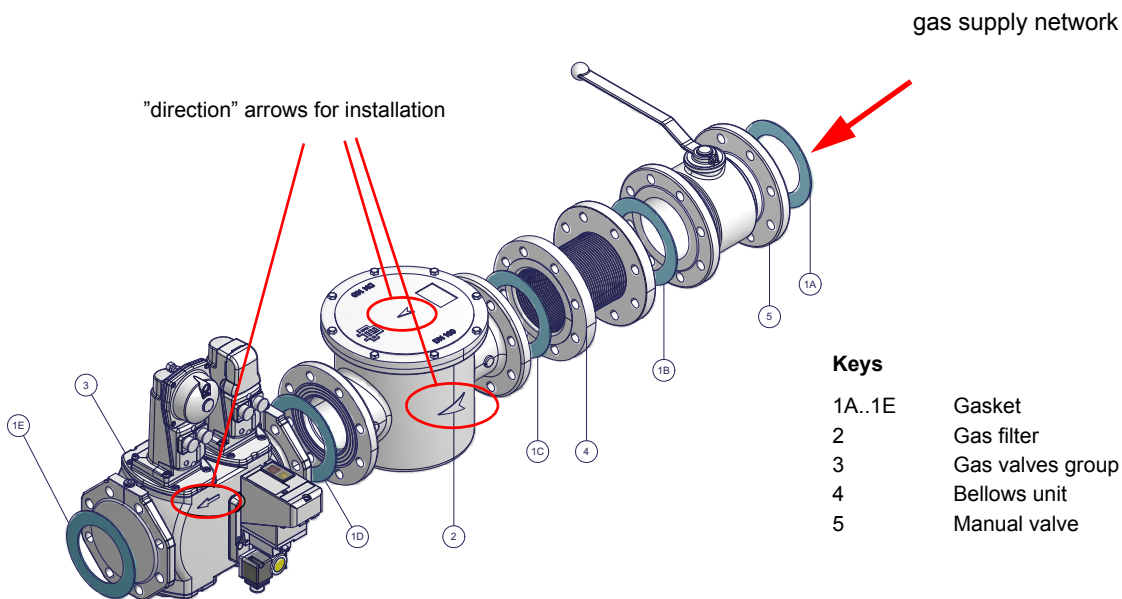

Fig. 6 - Example of gas train
1-b) in case of flanged joints: place a gasket (no. 1A..1E - Fig. 6) between the elements
**ATTENTION:** once the gas train is mounted according to the diagram on Fig. 6, the gas proving test must be performed, according to the procedure set by the laws in force.